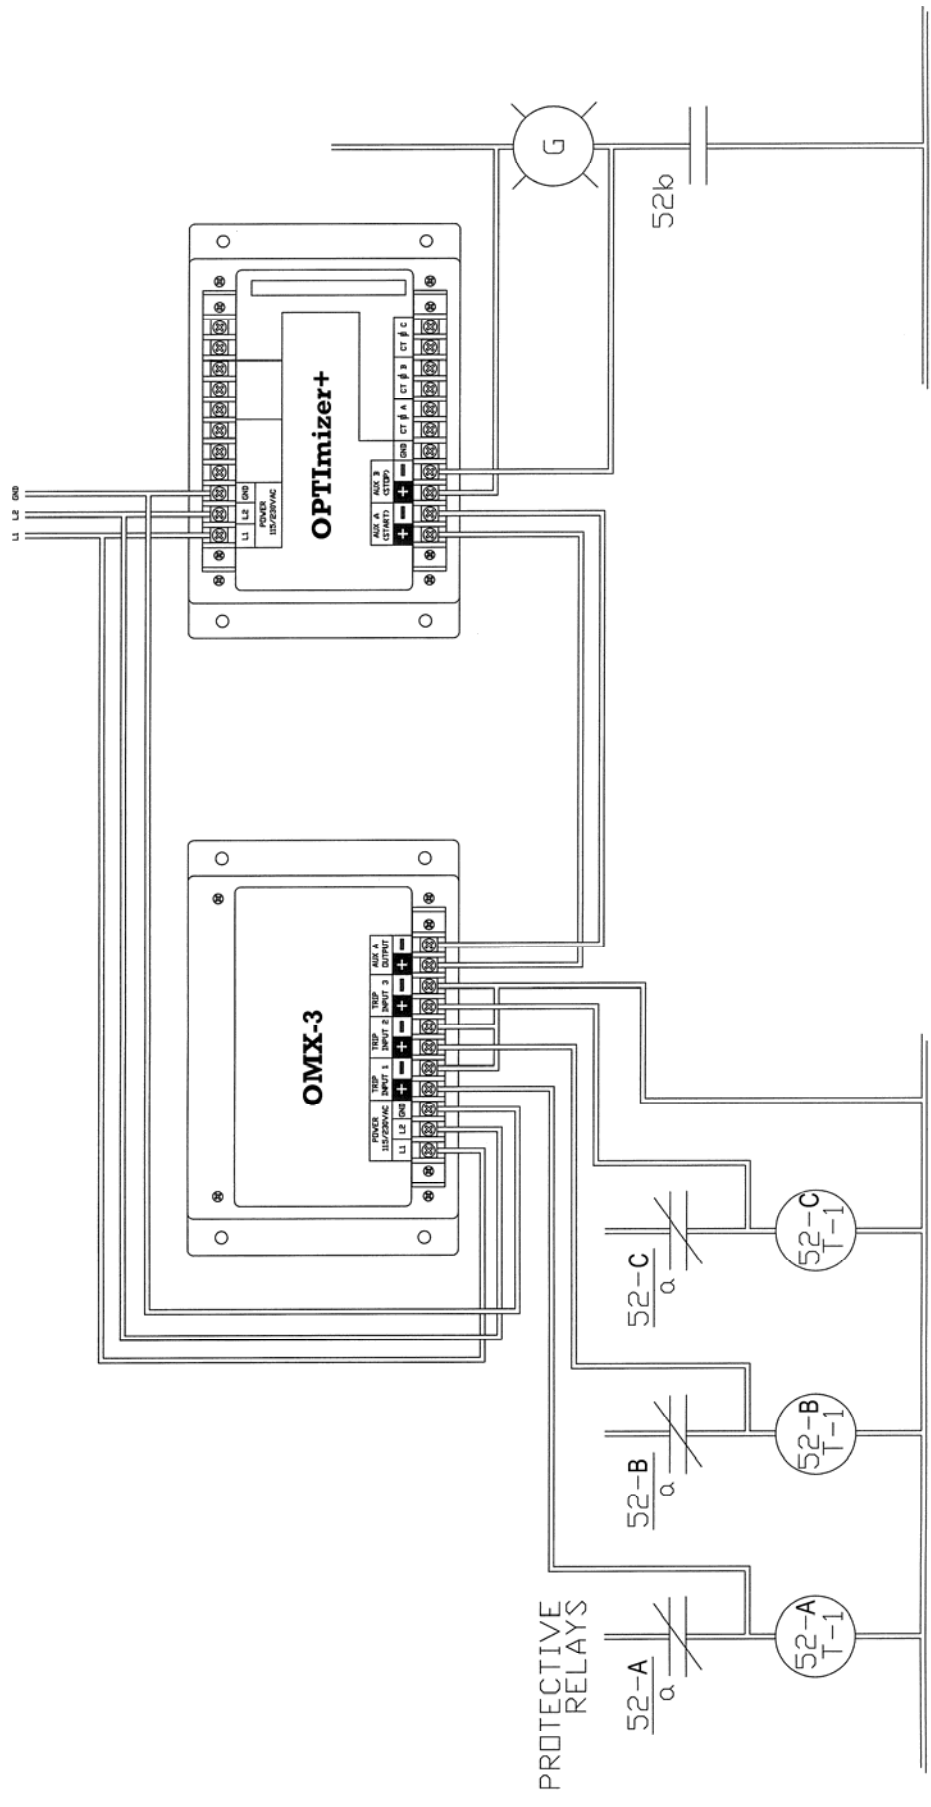

Figure 1.4 Field Wiring Diagram: Individual Pole Mechanisms with Separate, Single Trip Circuits
3. **Individual Pole Mechanisms with Separate, Single Trip Circuits (Figure 1.4) – Short** Since each pole can be individually tripped, and tripping of more than one pole is not guaranteed to happen at the same time, the ending of the output pulse would be meaningless unless it is related to the beginning of the first pole to trip. The longest trip time can not be detected by this method.